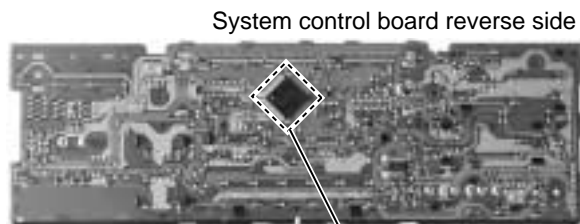

Fig.24
**■ Matters that require attention during replacement of IC400 (See Fig.24 and 25)**